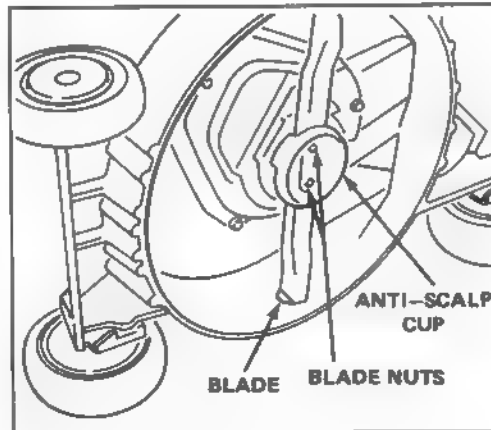

Figure 21
3. Tip mower on its right side (Fig. 21). Avoid rotating blade because starting problems may result.